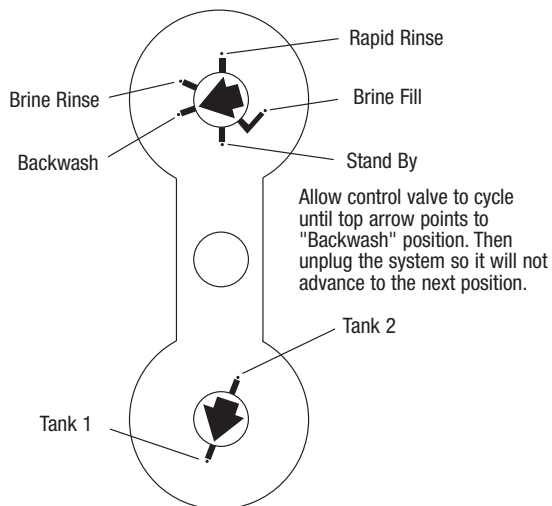

Figure 1 Control Valve Position Indicators
5. To Fill the first mineral tank with water, locate "Manually Initiating a Regeneration" in this manual and follow the steps to place the system in the backwash position. For SXT Controller see page 16. Reference the position indicator shown in Figure 1 below, located on the right side of the control valve's powerhead.